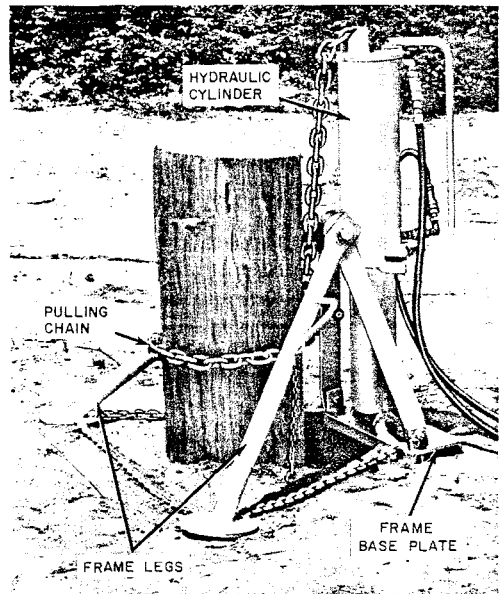

Fig. 1—General Machine Products Company Pole Butt Puller
2.01 *The General Machine Products Company* pole butt puller (Fig. 1) consists of a hydraulic cylinder, two flexible hoses, a pulling chain, and a preassembled frame. The frame consists of two tubular steel legs equipped with ground pads, two aluminum straps which are hinged at a base plate, and sections of heavy duty chain that connect the base plate and legs to keep the legs from spreading.